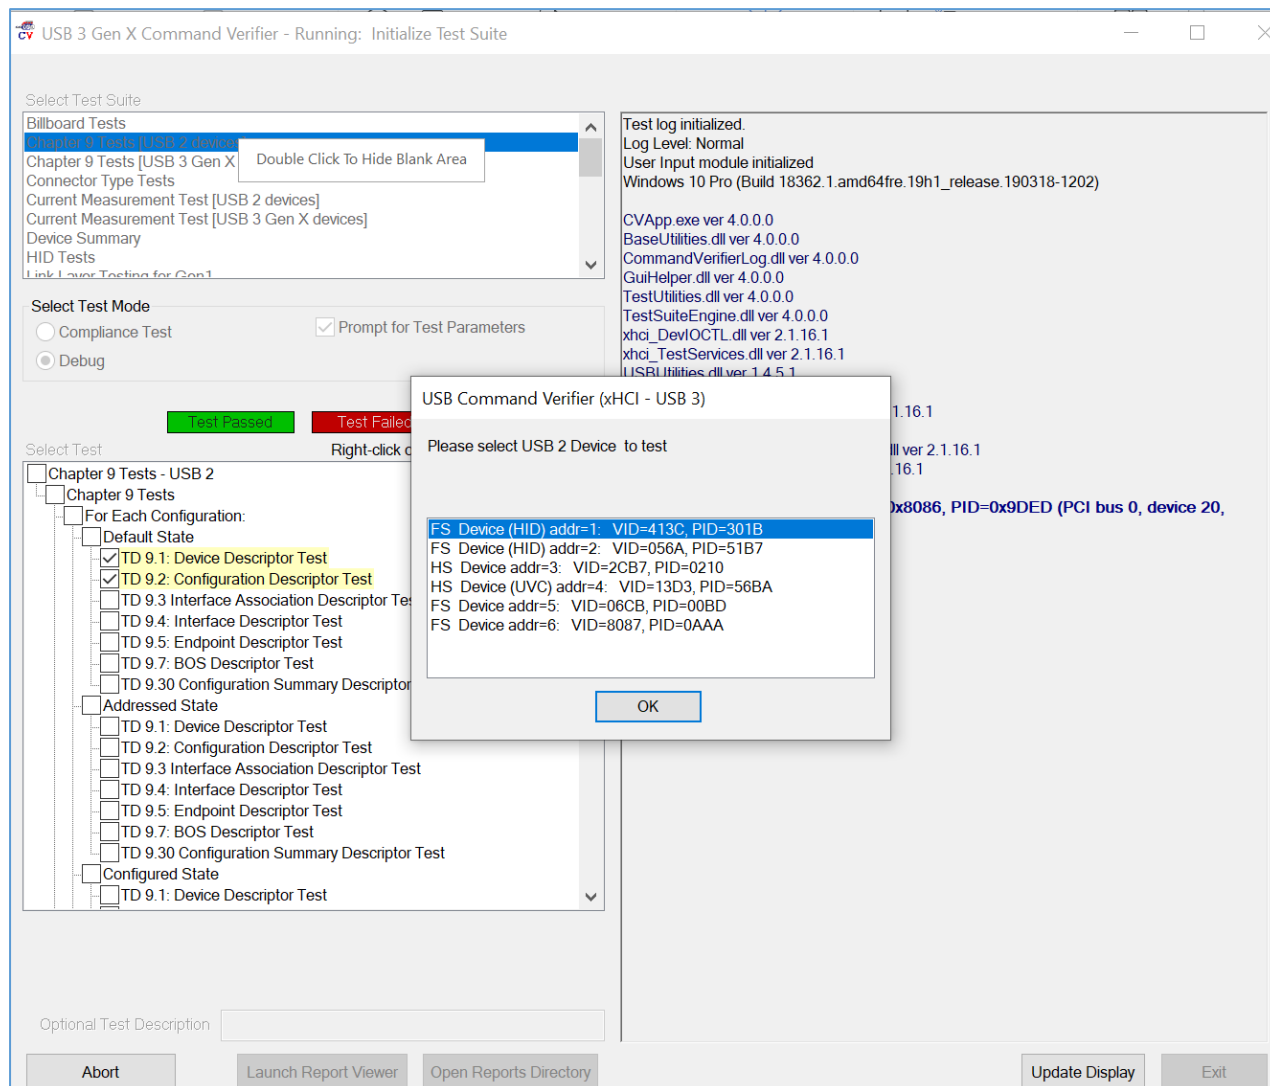

FIGURE 7.8: USER PROMPT TO SELECT FS DEVICE IN CV TOOL FOR TD 4.10.1 TESTS
6. While test is running, the “USB Command Verifier (xHCI- USB 3)” pop-up message will display a list of FS Devices (Figure 7.8 below). Select the FS Device as supported by the UUT and select “OK”.